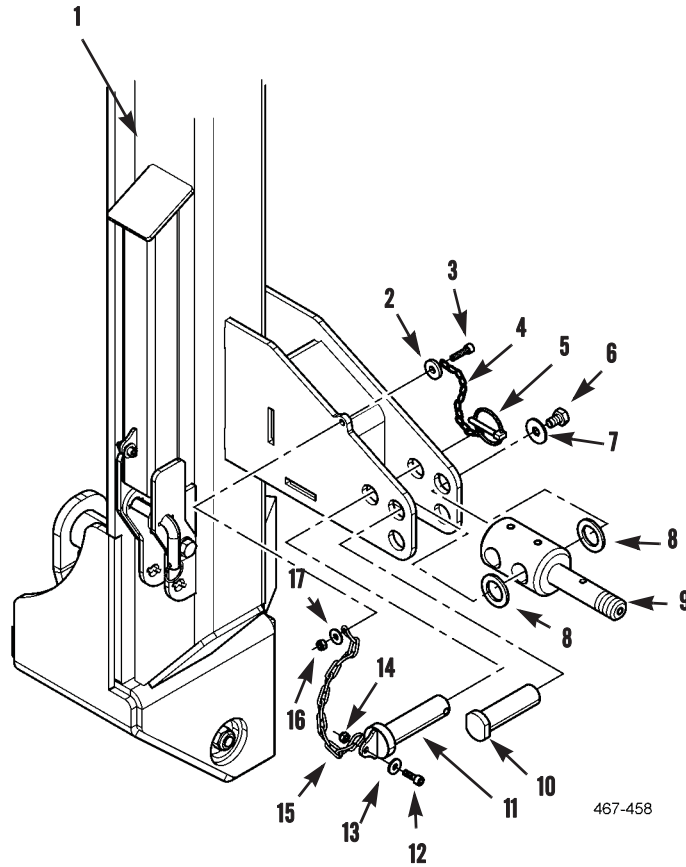

Figure 2. Roller Pin and Chains.
3. Remove locknut (Figure 2, Item 16), washer (Figure 2, Item 17), chains (Figure 2, Items 4 and 15), bolt (Figure 2, Item 3), and washer (Figure 2, Item 2) from lift frame (Figure 2, Item 1). Discard locknut.
4. Remove locknut (Figure 2, Item 14), chain (Figure 2, Item 15), bolt (Figure 2, Item 12), and washer (Figure 2, Item 13), from pin (Figure 2, Item 11). Discard locknut.
5. Remove bolt (Figure 2, Item 6), washer (Figure 2, Item 7), two spacers (Figure 2, Item 8), and pivot pin (Figure 2, Item 10) from lift frame (Figure 2, Item 1).
6. Remove snap ring pin (Figure 2, Item 5), from pin (Figure 2, Item 11).
7. Remove pin (Figure 2, Item 11) and roller pin (Figure 2, Item 9) from lift frame (Figure 2, Item 1).